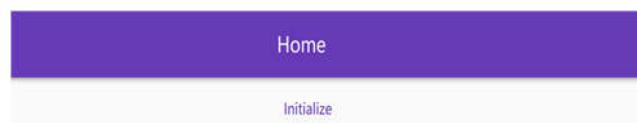

Figure E-7 Initialization Interface
- 3) The initialization interface is displayed, as shown in following figure E-7.